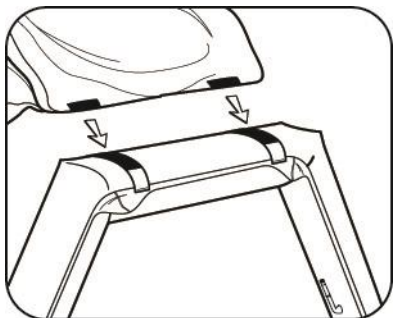

**FIGURE 9**
3. Clip male buckles on each end of support arch to mating female buckles on raft (See Figures 9 & 10). Ensure that the red oral tube is facing the inboard side of the life raft.